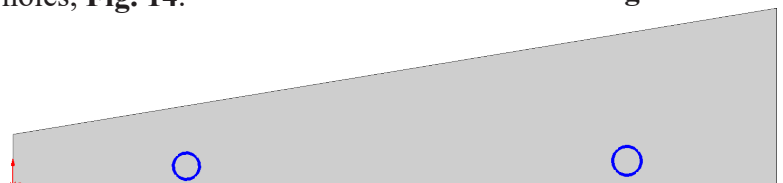

Fig. 14
Step 3. Click **Circle**  (S) on the Sketch toolbar.
Step 4. Sketch **two circles** for the axle holes, **Fig. 14**.